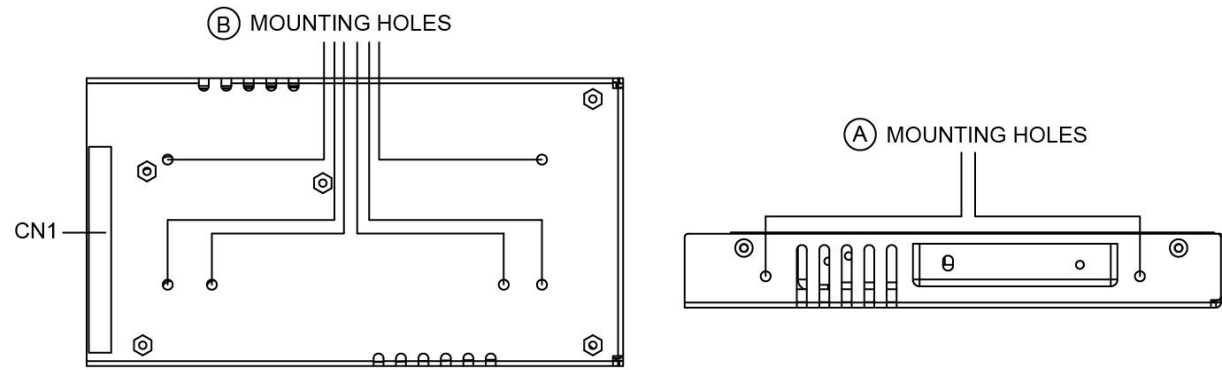
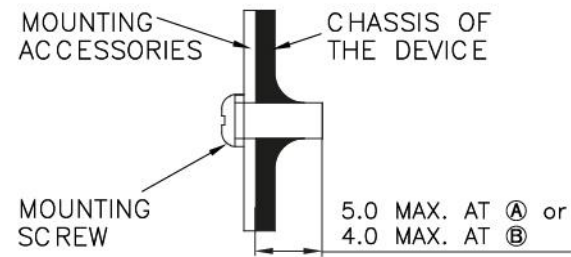

Fig. 3 Mounting Hole Locations
Fig. 4 Assembly Reference
- Ⓐ Side Mounting: Fig. 2 and Fig. 3 show the mounting hole locations for power supply assembly onto a metal mounting surface. The power supply shall be mounted on minimum of 2 mounting holes using M4 screw of maximum 5mm (0.20 inch) length (Refer to Fig. 4). This is to maintain a safety distance between the screw and internal components.
- Ⓑ Base Mounting: Fig. 2 and Fig. 3 show the mounting hole locations for power supply assembly onto a metal mounting surface. The power supply shall be mounted on minimum of 4 mounting holes using M4 screw of maximum 4mm (0.16 inch) length (Refer to Fig. 4). This is to maintain a safety distance between the screw and internal components.